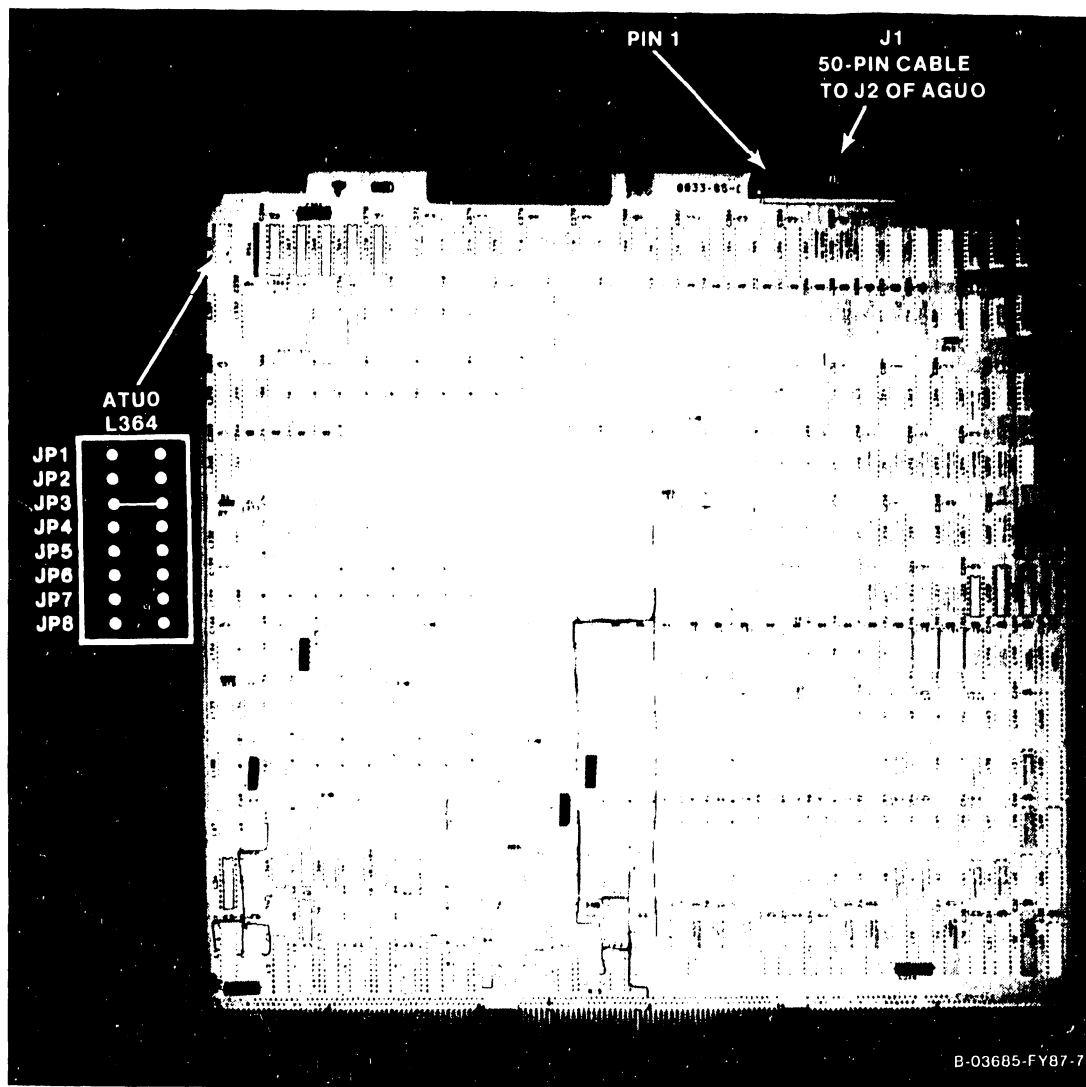

Figure 7-16. 210-9833 Address Translation Unit (ATU0)
1. Before removing the Address Translation Unit (ATU0), figure 7-16, from backplane slot #4 (ATU0), disconnect the 50-pin cable from J1.
3. After checking the IPC Destination Processor jumpers at L364 as shown in figure 7-16, install the new ATU1.